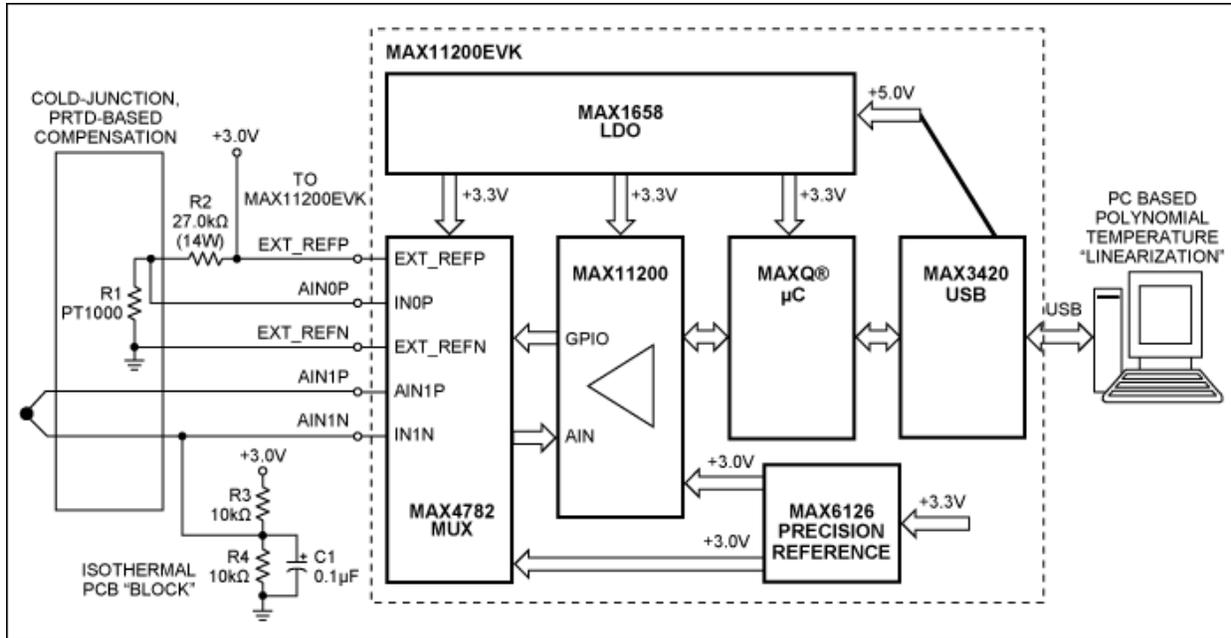

Figure 15. Simplified thermocouple DAS.
As an alternative to the MAX1402, the MAX1120/MAX11210 provide 24-bit resolution and support the high-performance, demanding applications. **Figure 15** is a simplified schematic showing a precision DAS that uses the 24-bit delta-sigma ADC MAX11200 evaluation (EV) kit and allows thermocouple temperature measurements. Here, R1 - PT1000 (PTS 1206, 1000 $\Omega$ ) is used for absolute temperature measurement of the cold junction. This solution allows the cold junction temperature to be measured with  $\pm 0.30^\circ\text{C}$  accuracy, or better.1